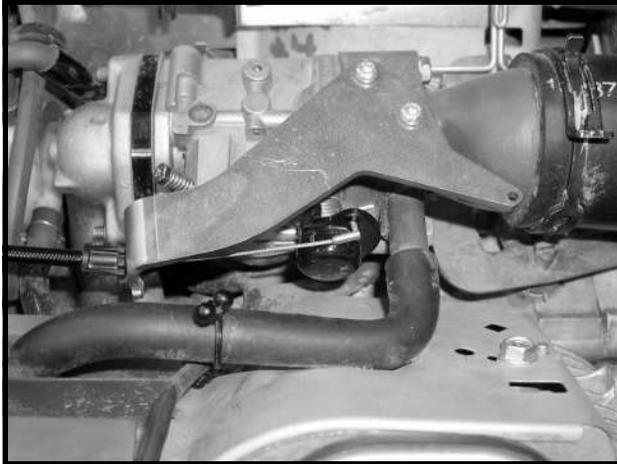

Figure 13a-26 Choke Cable on Engine
1. Secure a new choke cable to the nylon cord outside of the instrument panel. Pull the cable from the engine compartment down to the choke cable bracket and choke control (**Figure 13a-26, Page 13a-27**).